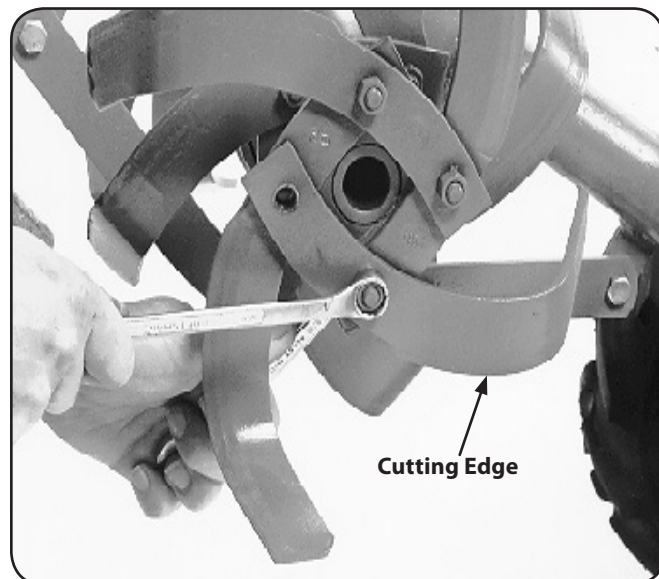

Figure 7-9
1. Remove the two screws and nuts that attach a single tine to the tine holder. If needed, use penetrating oil to help free the nuts. See Figure 7-9.